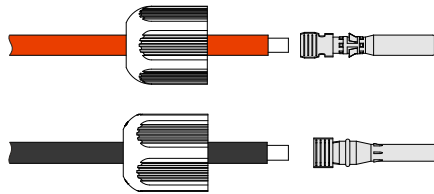

Figure3-36 Crimp metal terminals
- Step 2 Loosen the lock nuts of the positive and negative connectors, pass the positive and negative cables through the corresponding lock nuts, and use a crimping tool to press the positive and negative metal terminals respect to the positive cable and negative cable with the insulation layer removed, as shown in Figure 3-36.